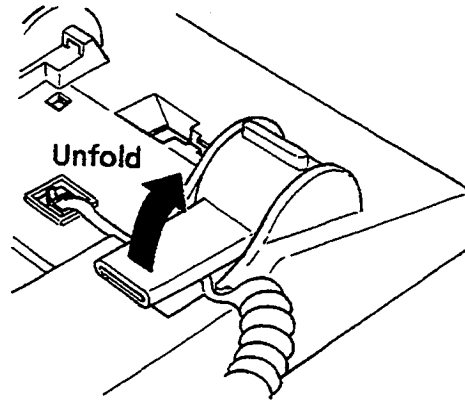

Figure 1-53 Unfolding the Legs of the Tilt Stand
- b. Unfold the legs until they lock. (Refer to Figure 1-53 - Unfolding the Legs of the Tilt Stand.)